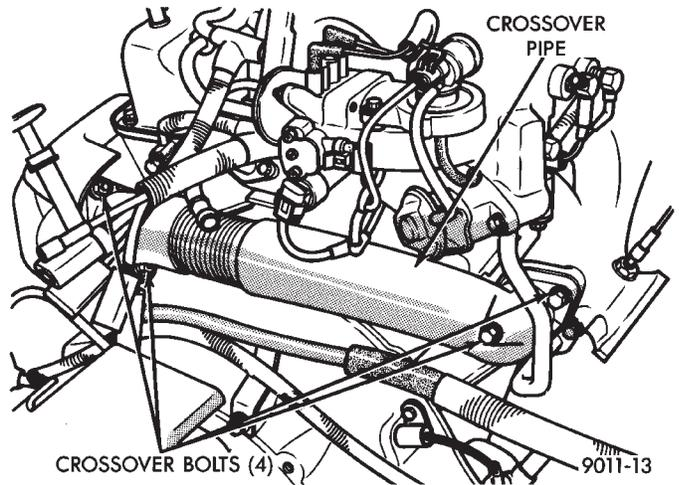

Fig. 18 Crossover Pipe
- (7) Remove bolts fastening crossover pipe to front exhaust manifold and nuts fastening manifold to cylinder head. Remove assemblies (Fig. 18).
(5) Install front exhaust manifold and attach exhaust crossover (Fig. 18).